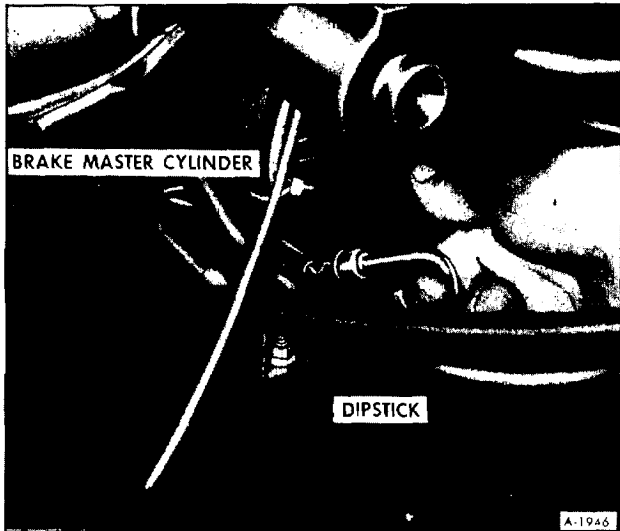
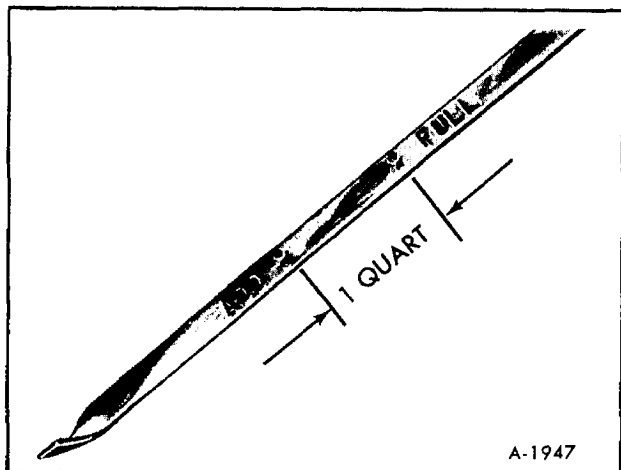

Figure 12—Removing Engine Oil Dipstick
Figure 13—Engine Oil Dipstick
The engine oil should be maintained at the proper level. The best time to check it is before operating the engine or as the last step in a fuel stop. This will allow the normal oil accumulation in the engine to drain back into the crankcase. To check the level, remove the oil level dipstick located inside the left front access door (See figure 12) wipe it clean and reinsert it fully for accurate reading. The oil level dipstick is marked "FULL" and "ADD." (figure 13) The oil level should be maintained within the margin, neither going above the "FULL" line nor below the "ADD" line. Reseat the dipstick firmly after taking the reading. One (1) quart will raise the oil level from "ADD" to "FULL."